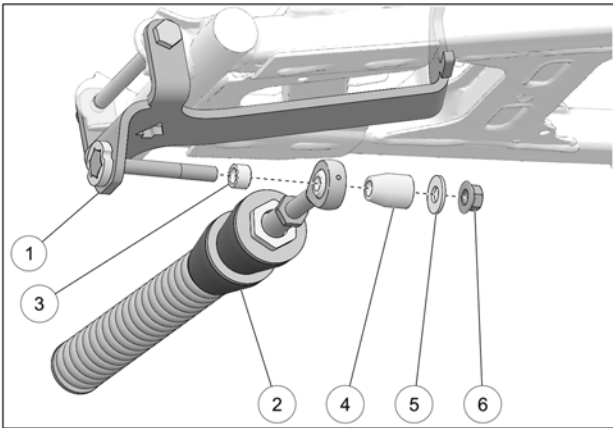

Fig. 11
10. Attach stabilizing rod (2) to anchor bracket (1), using short spacer bushing (3), long spacer bushing (4), flat washer (5) and nut (6). Torque to 70 N•m [52 lb•ft]. See Fig. 11